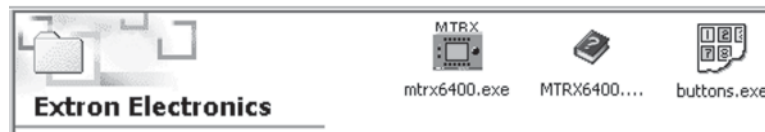

Figure 2-3.B
2. Installation of the software creates a Program Group (Windows 3.1) or a Folder (if Windows 95/98 or above) called "Extron Electronics". Icons for the Control Program and the Help Program are installed in that group, or folder (Figure 2-3.B).